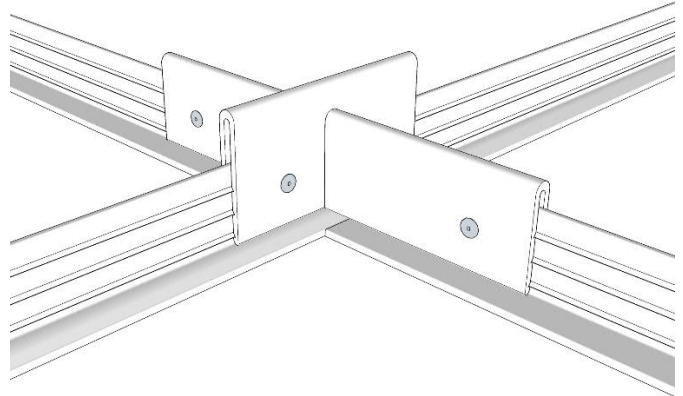
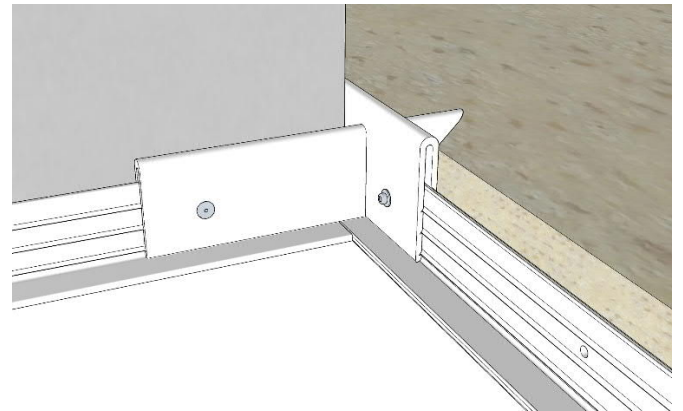

FIG. 24
FIG. 25
1. **Seismic Cross Junctions** and **Seismic Offset Junctions** are installed the same way as typical standard duty **Cross Junctions** and **Offset Junctions** EXCEPT both are installed with **Lock Rivets** and **Backup Washers**. FIG. 24, FIG. 25